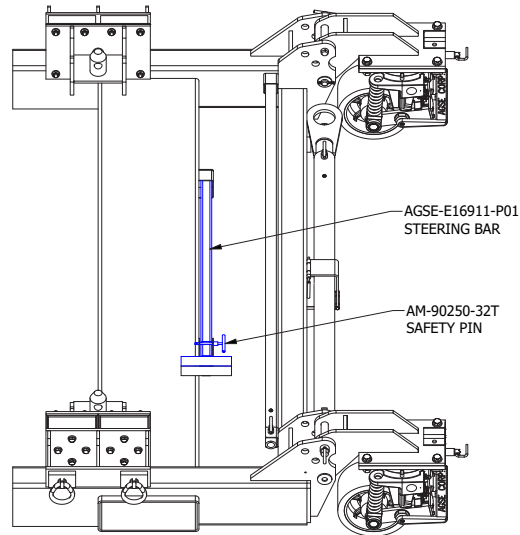

Figure 4.2-4
- 1). Retrieve at least one (1) AGSE-E16911-P01 steering bar by removing the AM-90250-32T safety pin and its retainer pin securing the steering to the base (Figure 4.2-4).